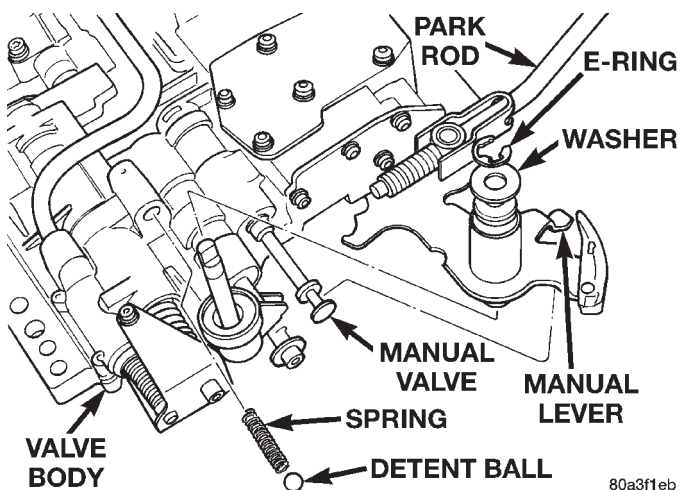

Fig. 42 Manual And Throttle Levers
- (5) Remove manual shaft E-clip, washer, and seal (Fig. 42).
- (6) Pull manual shaft and park rod assembly upward out of valve body and off throttle lever (Fig. 42).
- (8) Remove Retainer Tool 6583. Then remove and retain detent ball and spring (Fig. 42).
- (9) Remove throttle lever (Fig. 42).